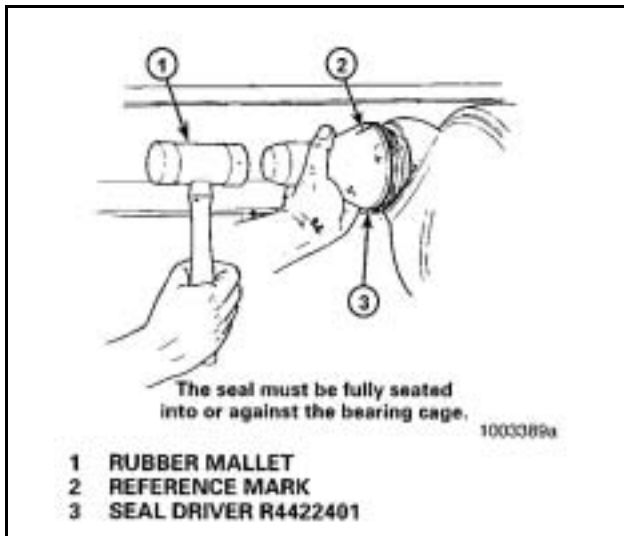

Figure 50
4. Use a rubber mallet to drive the seal into or against the bearing cage. The seal must fully seat into or against the bearing cage. **Figure 50.**